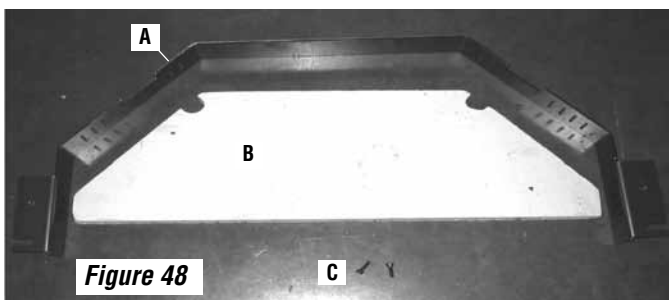
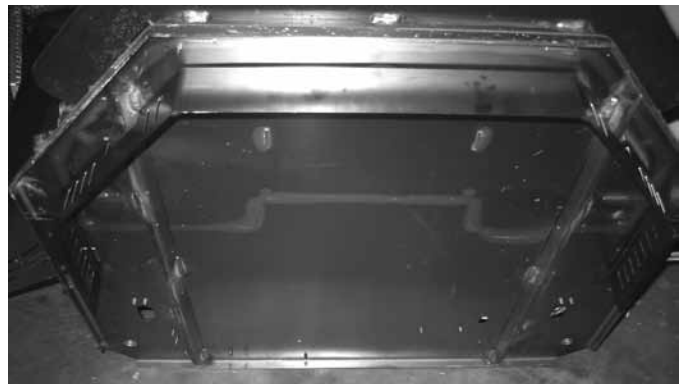

Figure 48
Figure 49
(Refer to Figure 48)
1. **Install the 2" lower trim piece** - Fasten the 2" trim piece underneath the base of the front of the insert as follows; use a 5/32" allen wrench or T-handle wrench to secure the 2 screws (see C in Figure 48) provided, one at the left side and one at the right side base of the insert. **Note:** This process will be simplified by very cautiously tilting the insert back (see Figure 49).